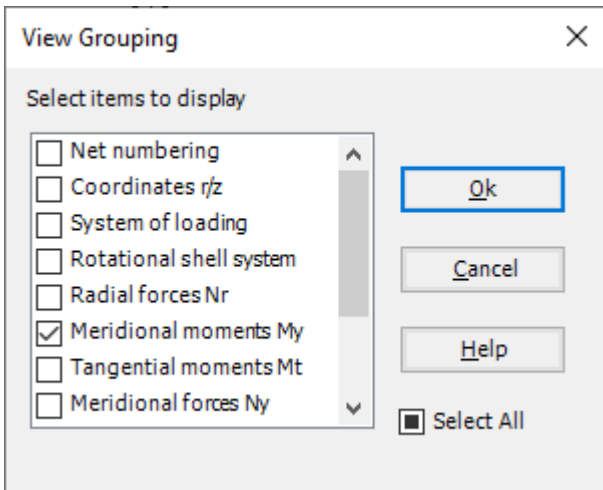

Figure 8.30 "View Grouping" check group box
- The "View Grouping" check group box in Figure 8.30 appears